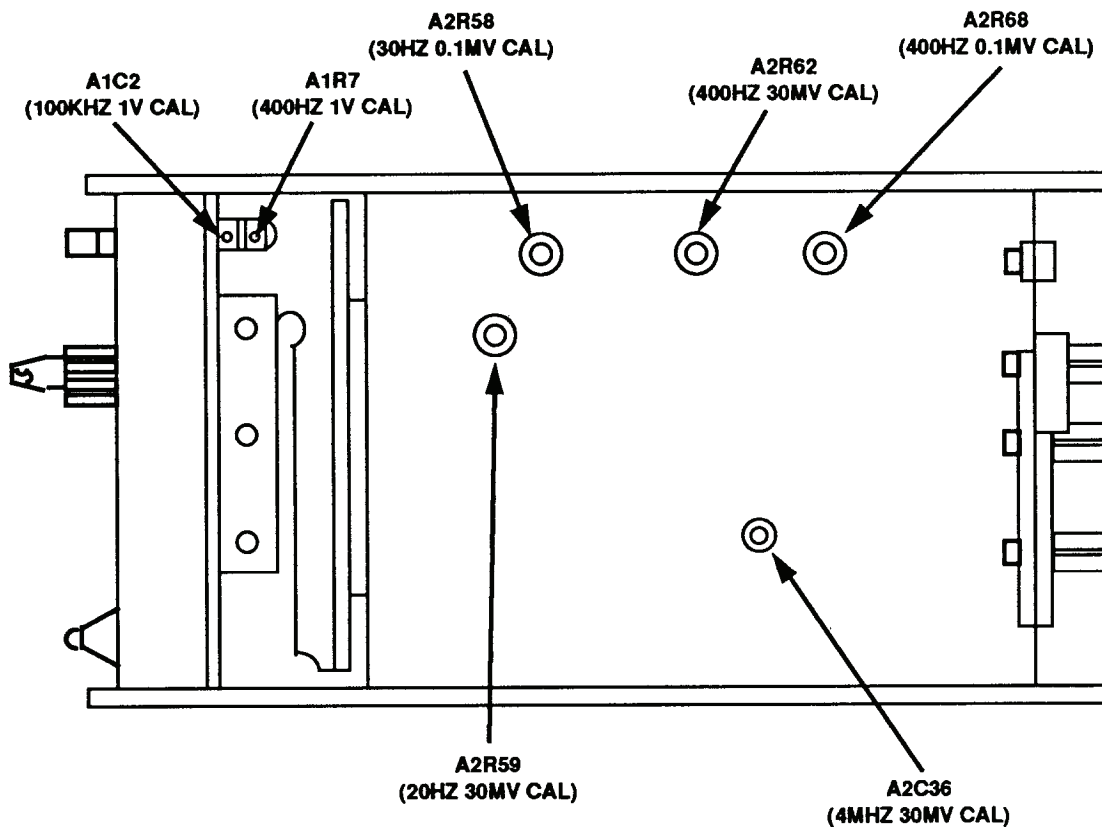

Figure 2. Models 400F and 400FL - top view.
(1) Connect calibrator OUTPUT to TI INPUT terminal.
(2) Set RANGE switch to 30 MV.
(3) Set calibrator FREQUENCY for 400 Hz and output AMPLITUDE for indication of 3 on TI 0 to 3 scale. If calibrator does not indicate 30 mV ± 1 percent, set calibrator output AMPLITUDE to 30 MV and adjust A2R62 (400 HZ 30MV CAL) (fig. 2) for TI indication of 3 (R).
(4) Repeat technique of (1) through (3) above for remaining calibrator frequencies listed in table 5. Calibrator Error display will be within specified limits; if not, perform indicated adjustments.
(1) Connect TI **INPUT** to calibrator **WIDEBAND OUTPUT** and press calibrator **W BND** pushbutton.
(2) Set TI **RANGE** switch to **30 MV**.
(3) Set calibrator **FREQUENCY** to **1 kHz** and **AMPLITUDE** for an initial 30 mV output. Adjust calibrator output **AMPLITUDE** for a TI indication equal to value recorded in table 5 for 30 mV (1 kHz) to establish a reference. Press calibrator **NEW REF** pushbutton.
(4) Set calibrator **FREQUENCY** to **4 MHz** and output **AMPLITUDE** for a TI meter indication of 30 mV. Calibrator **Error** display indication will be within ±4.0 percent, if not, set calibrator output amplitude to reference set in (3) above and adjust A2C36 (4 MHz 30 MV CAL) (fig. 2) for TI indication of 30 mV (R).
(5) Repeat technique of (4) above using calibrator frequency of 1 MHz. Calibrator **Error** display indication will be within ±1 percent.
(6) Set TI **RANGE** switch to **1 VOLT**, adjust calibrator output **AMPLITUDE** for **1 V**, and repeat technique of (3) and (4) above. Calibrator **Error** display indication will be within ±4%.